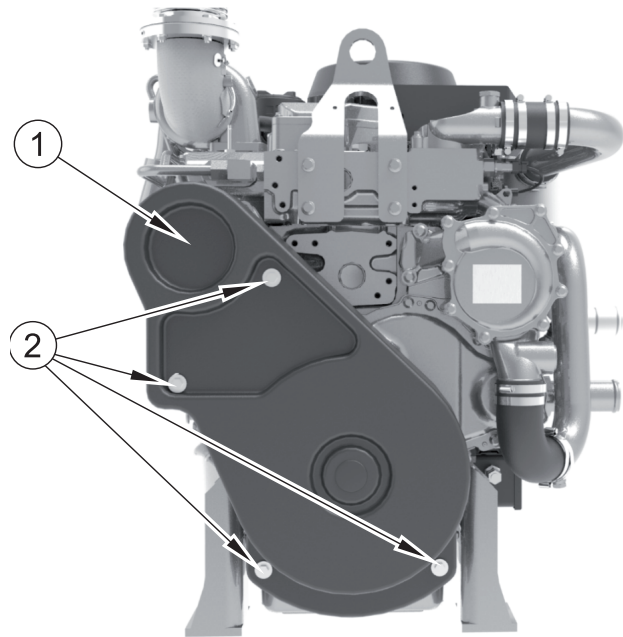

Figure 38
To gain access to the vibration damper (figure 38 item 1), remove the 4 bolts (item 2) holding the belt cover in place.